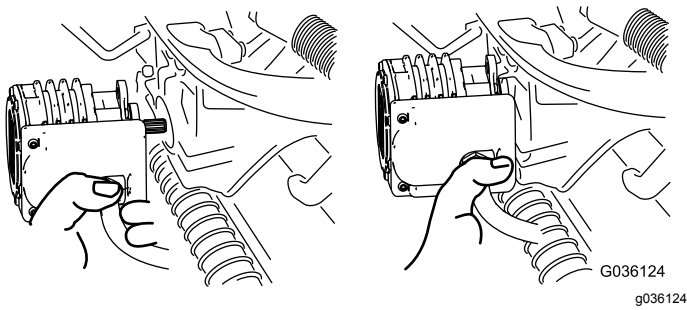

Figure 35
4. Move the motor to the storage location on the front of the suspension arm (Figure 35).